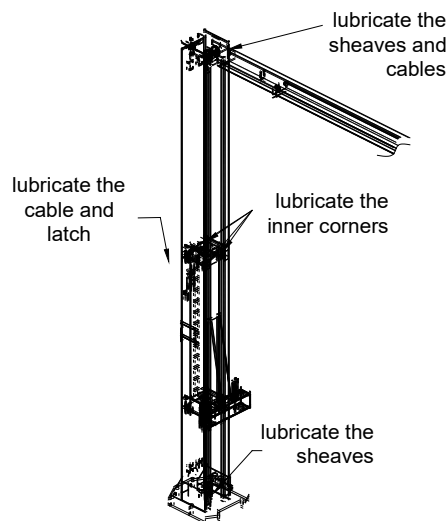

Fig. 13
- 19) Lubricate the cables, sheaves, release latch and inner corners in the columns (Fig.13). Install the single hand releasing latch covers (23).